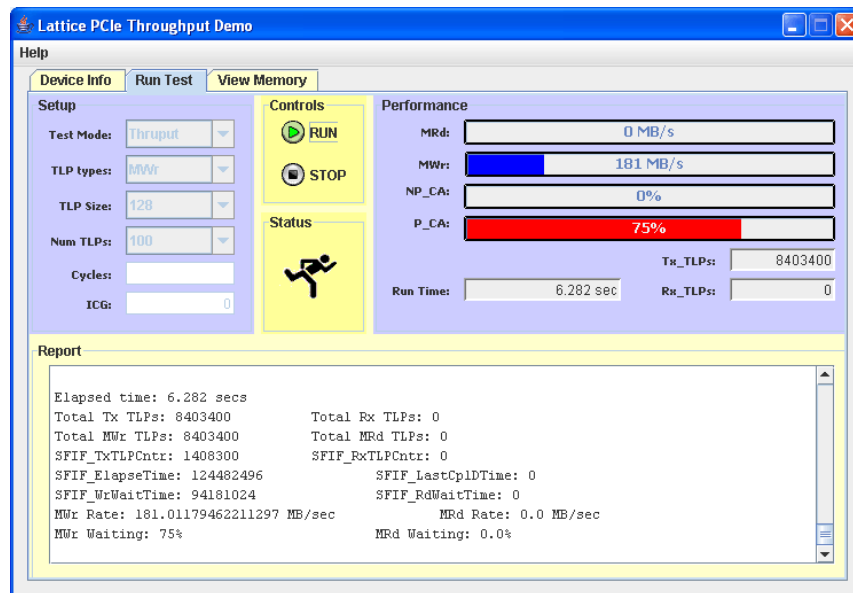

Figure 7.3. Throughput Run Test Info Page
2. Click on the **Run Test** tab to see the contents of the Run Test page. This page operates the demo design. In this page, you will be running the demonstration to compute the throughput of the PCI Express link and display the transfer rates with bar graphs. You can select read, write, and read-write throughput tests. See Figure 7.3.